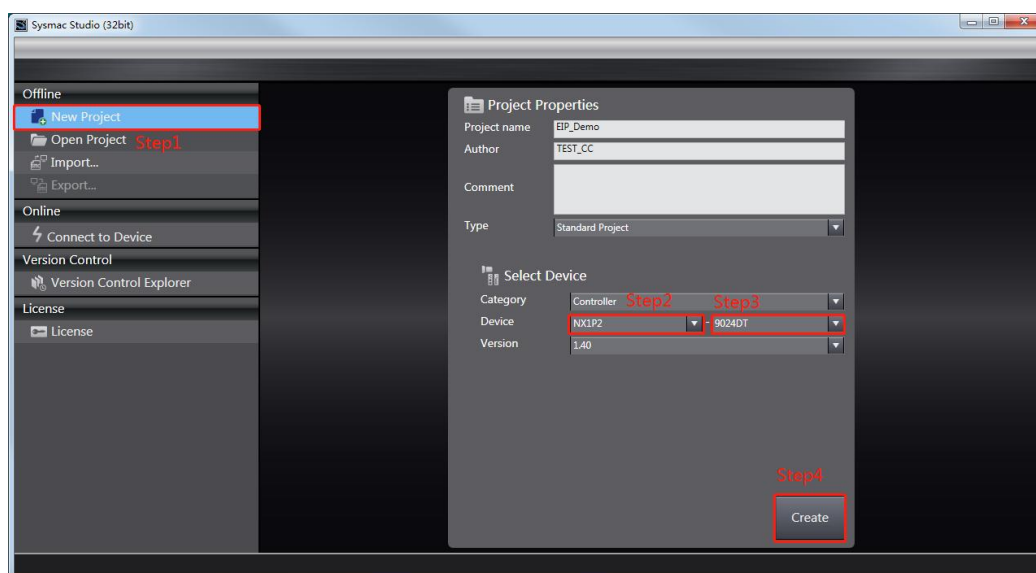

Figure 5-2-1
- Open Sysmac Studio software, click “New project” as shown in Figure 5-2-1: Select the corresponding PLC model, and click Create